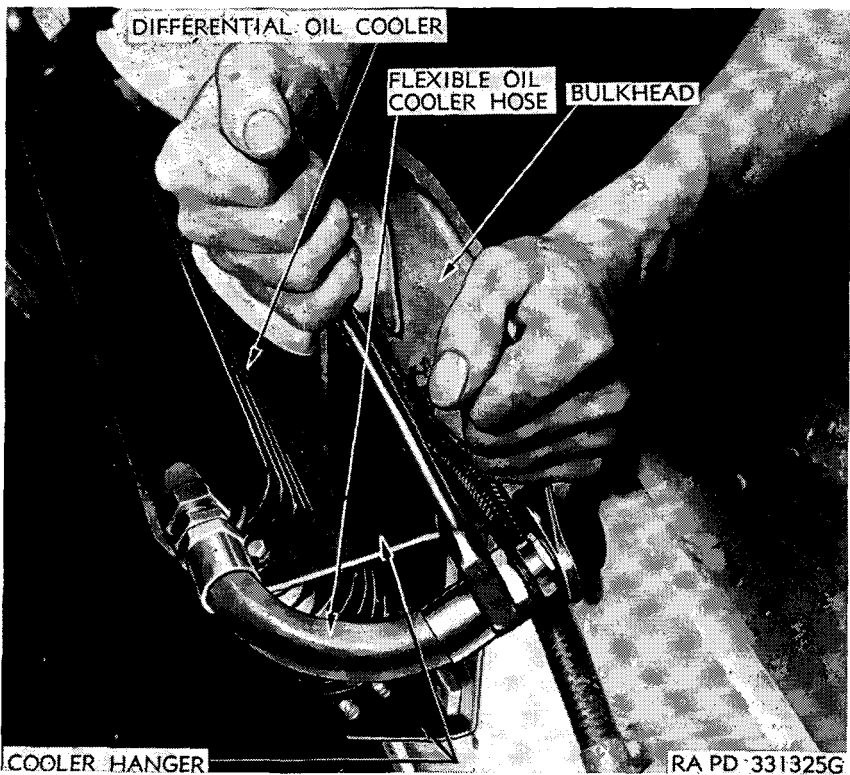

Figure 124. Disconnecting oil cooler hose.
- (3) *Disconnect flexible oil cooler hoses.* Disconnect both oil cooler hoses at bulkhead connection by holding hose stationary with one wrench and turning coupling with another wrench (fig. 124). Plug ends of hoses immediately to prevent oil from running out over radiators.
Note. Use two wrenches to connect coupling to keep hoses from twisting (fig. 124).